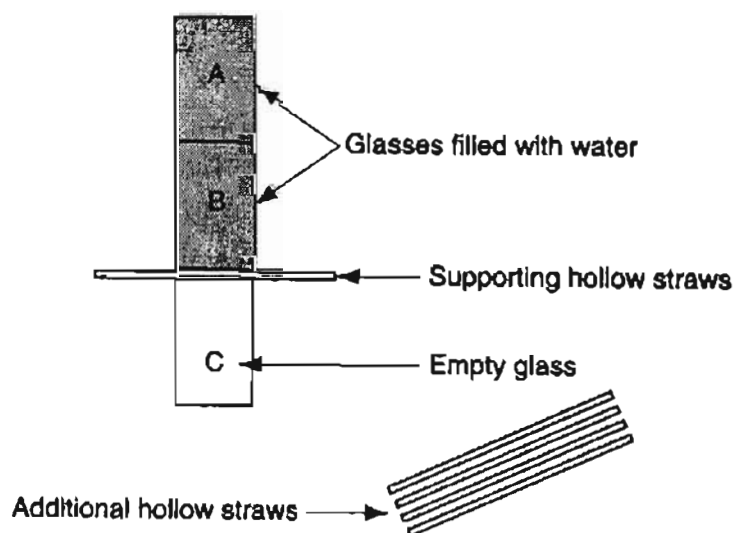

Figure DP13.1P1
1. Three identical glasses are arranged as in Figure DP13.1(P1). Hollow stirrers are also needed. Glasses A and B are completely filled with water (by submerging them jointly in a bucket or sink and joining the mouths before removing), and C is empty. Glasses A and B are carefully placed on a few hollow stirrers as shown in the figure. How can most of the water in glass A be transferred to glass C without ever touching or moving the glasses or their supporting stirrers?